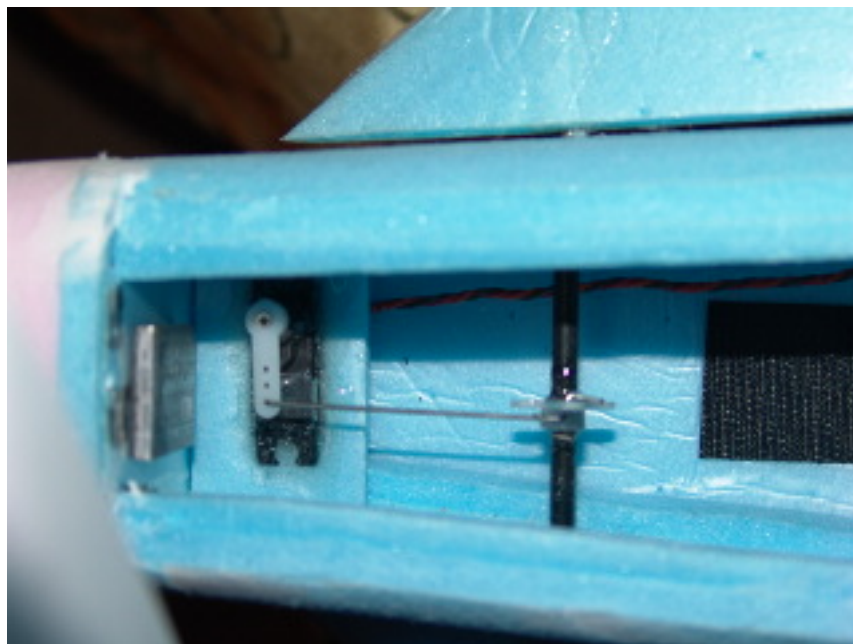

Fig 2.
- h) Bend one angle in your hanger wire while leaving the rest straight. Run the angled wire through one hole while slipping the 2.87in. Here you can either glue a external horn to the CF later or drill out a spare servo horn so it will slip over the center CF tube and Epoxy it later. Run the rest of the wire through the other side and Epoxy the center wire to the Epoxy tube. Once again be careful not to let glue make contact beyond the outer edges as you will glue your pivot points solid. See Fig. 2